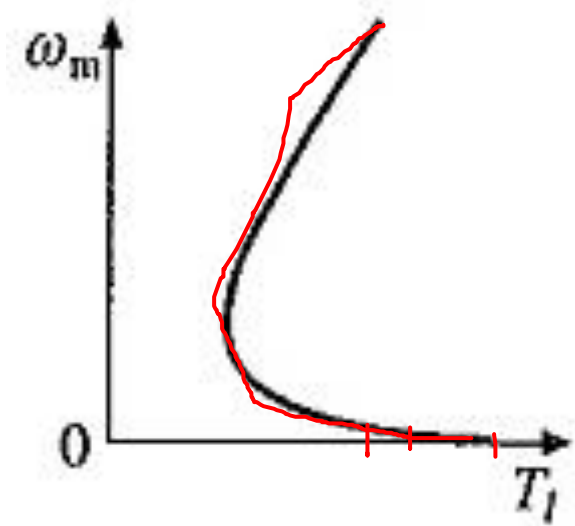

Fig. 4. Traction load.
- The nature of the speed-torque characteristic of a traction load when moving on a leveled ground is shown in Fig. 4.